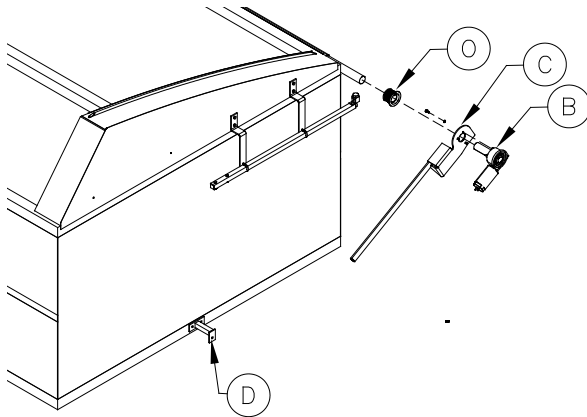
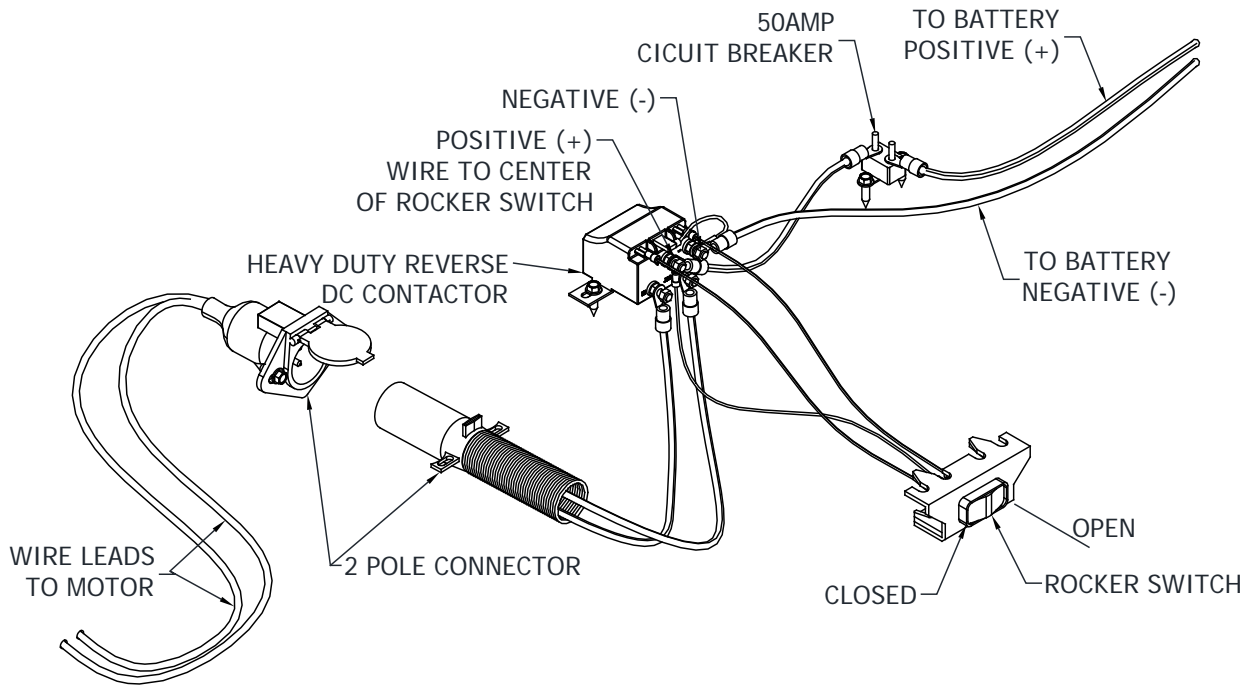

Figure 20
Figure 22
### Step 10A: Rocker Switch Electrical Installation (See Figure 22)
**Procedure:** Mount the rocker switch in an obstruction free area inside the truck cab. Then mount the solenoid on the frame near the cab of the truck. Run the #6 double strand wire from the solenoid along the truck frame to the rear box hinge point. Now run the wires along the box frame to the front box sill. Leave a slight amount of slack at point (D) (see Figure 20) and continue running the wire along the pivot arm. Secure the wire to the top pivot arm (C) with the tie straps provided. Attach the wire to the truck with the wire clips and 1/4"x1" self-tapping screws that are provided. The ends at the solenoid both get a black rubber boot and a #6-1/4" stud crimped on. Splice a 50amp circuit breaker in line with 1 of the wires running from the motor to the socket or solenoid. Connect the wires to the motor posts. Secure the motor cover to the motor with the 2 screws provided. Run the 14-3 wire from the solenoids to the rocker switch. At the switch, each wire gets a 14G female end crimped on and at the solenoid each wire gets a 14G female end except for the wire connected to the middle post of the switch gets a 14G-3/8" ring terminal crimped on to connect to the positive (+) post of the solenoid. Follow wiring schematic below (Figure 22). Raise and lower the hoist to make sure that the wires are free from obstructions. Run #6 wire from the solenoid to the battery posts. The wire with the red stripe will be the positive wire and will get bolted on the positive post marked (+) along with the black 14Ga wire running from the switch. The black wire or negative wire will be bolted onto the bottom negative post (-). Put the 50A circuit breaker in line with the positive wire. (See Figure 22)